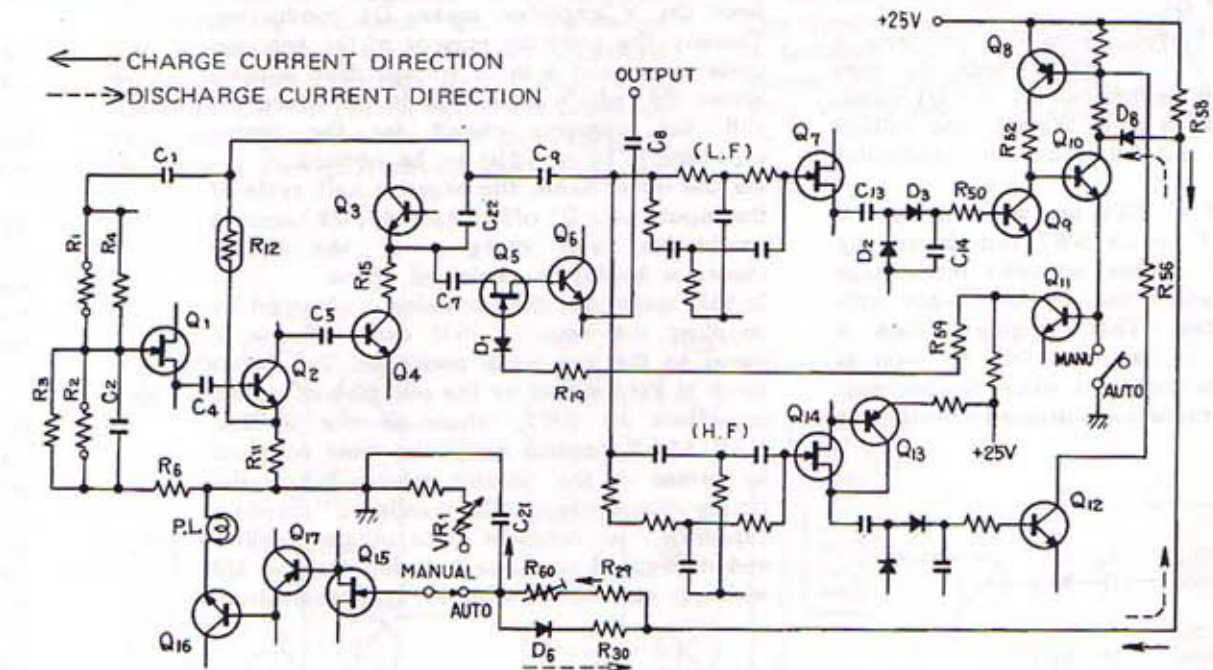

Fig. 10
Figs. 10 and 11 show simplified circuit diagrams of the audio sweep generator. The oscillator circuits are designed as typical CR-type Wien bridge generator. Fig. 12 (A) shows the operation of the Wien bridge oscillator. This circuit consists of a basic amplifier with positive and negative feedback loops. The oscillation frequency is determined by the CR networks in the positive feedback loop, and
Q11 is a kind of trigger for the output muting circuit. During charging time, Q11 is off, and the output signal is available through Q5 and Q6. During discharge, however, Q11 becomes conductive, whereby Q5 and Q6 are shut off, and no signal appears at the output. Refer to figs. 10 and 13.